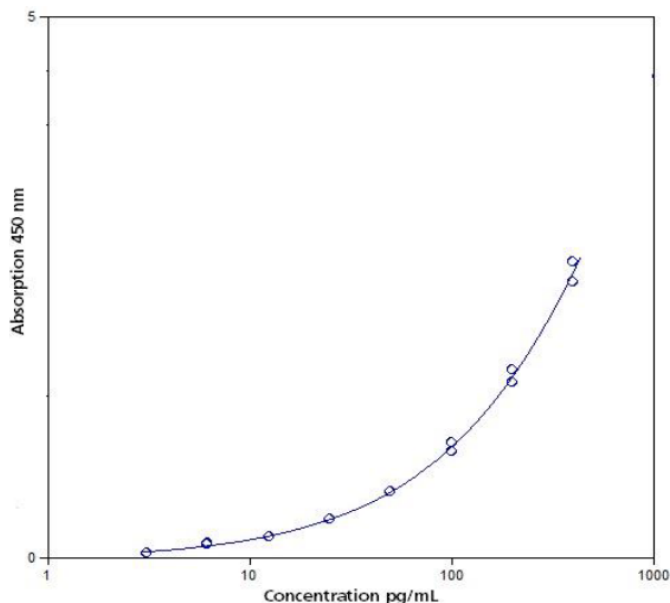

Fig. 8 Representative standard curve for human LAG-3 ELISA. Human LAG-3 was diluted in serial 2-fold steps in Sample Diluent.
- A representative standard curve is shown in Figure 8.